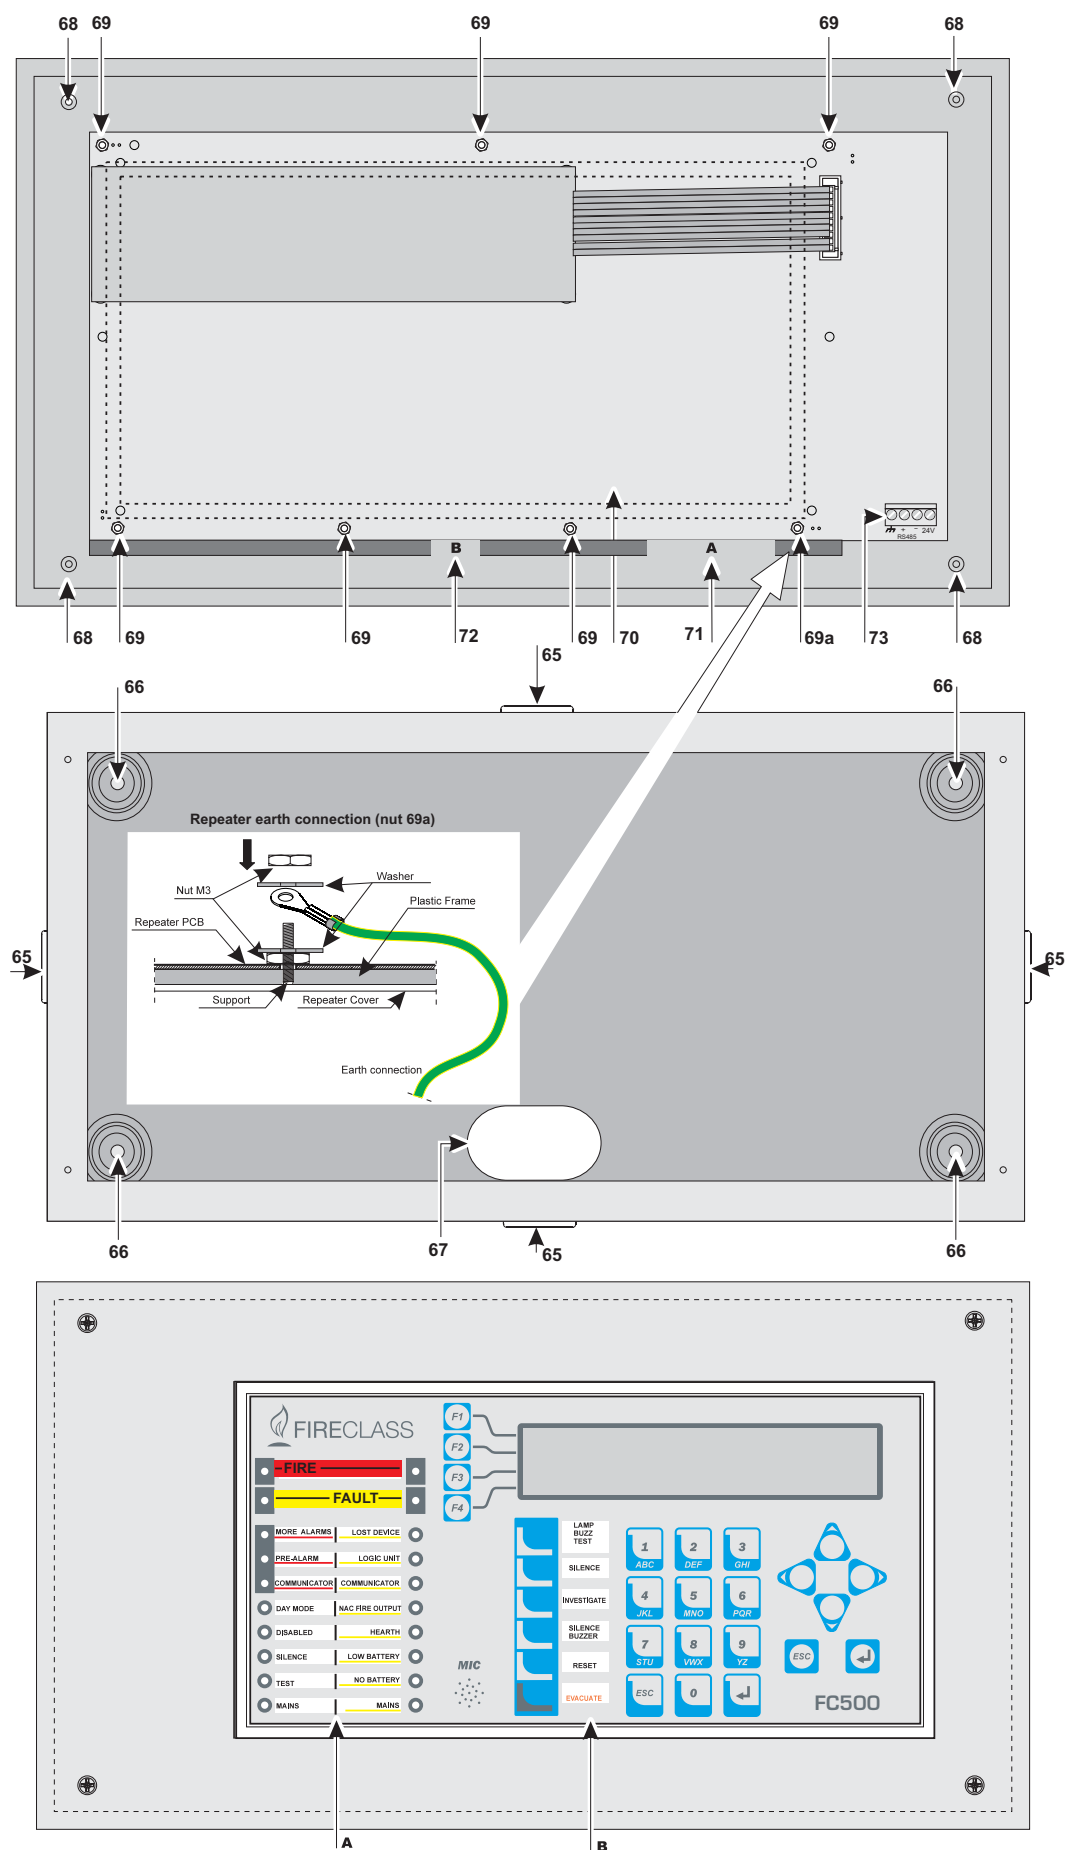

Figure 5 Installation FC500REP Repeater
2. Remove the screws (68) (see Figure 5) and open the Repeater FC500REP.
3. If you are **flush mounting** the Repeater, go to step 4. If you are wall mounting the Repeater, drill the anchor screw holes (66).
4. Pull the wires through the wire entry (67), then, using the anchor screws, secure the Repeater to the wall.
- Connect the earth wire to the threaded support 69a on the cover, as illustrated in Figure 5.